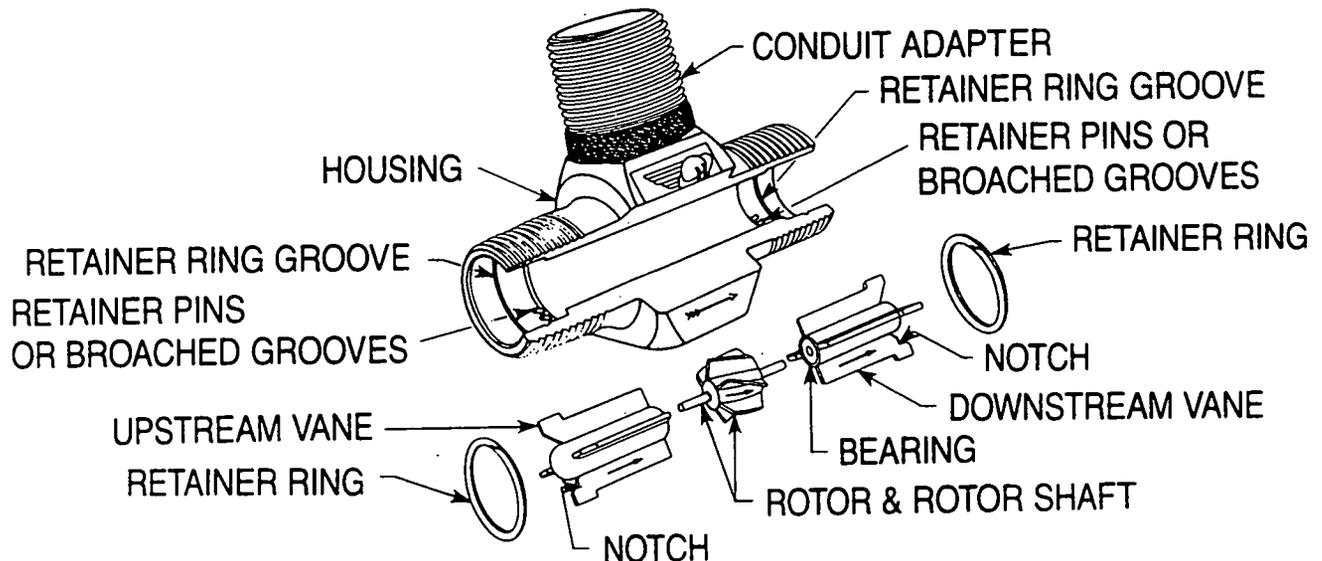

Figure 1
Figure 1 illustrates a typical Flow Meter. The following instructions are applicable to all meter sizes except as noted.
3. In all sizes, observe that one of the blades on each vane has a mark or notch on it and that retainer pins, welds or notches are provided in each end of the housing. The marked or notched blade must be inserted between these retainer pins, weld spots or notches. The meters are calibrated in this position, and should be reassembled in this position for the greatest accuracy. (See Figure 1.)